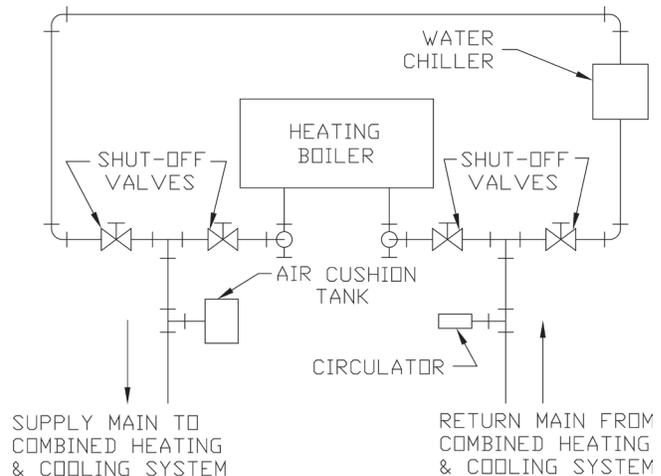

Figure 3-1: Recommended Piping for Combination Heating and Cooling (Refrigeration) System
- a. If this boiler is used in connection with refrigeration systems, the boiler must be installed so that the chilled medium is piped in parallel with the heating boiler using appropriate valves to prevent the chilled medium from entering the boiler. See Figure 3-1. Also, consult I=B=R, "Residential Hydronic Heating Installation and Design Guide".